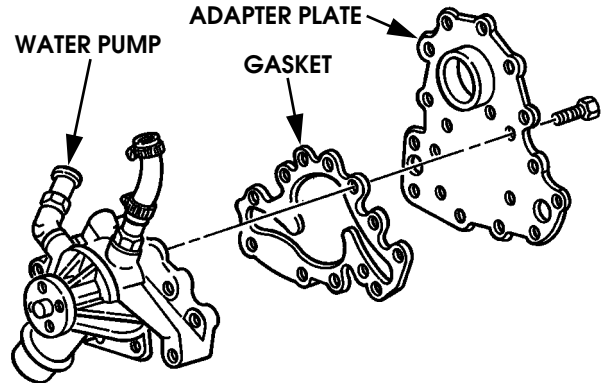

Figure 2-196: Assembling Water Pump and Adapter Plate
1. Apply Permatex #2 to both sides of gasket and install gasket and water pump on adapter plate (Figure 2-196). Tighten adapter plate bolts to 13-20 lb-ft (18-27 N•m).